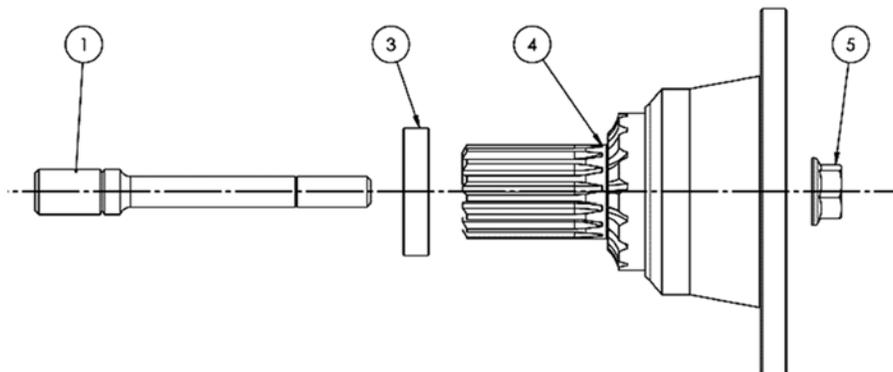

Figure 6: Installation of the 1350/1410 and 1310 series flange adaptor kits to the DT12 PTO.
- Spicer 1350/1410 Flange: A9472600317 (See Figure 6 for the dimensions)
See Figure 6 above for the installation of the 1350/1410 and 1310 series flange adaptor kits to the DT12 PTO.